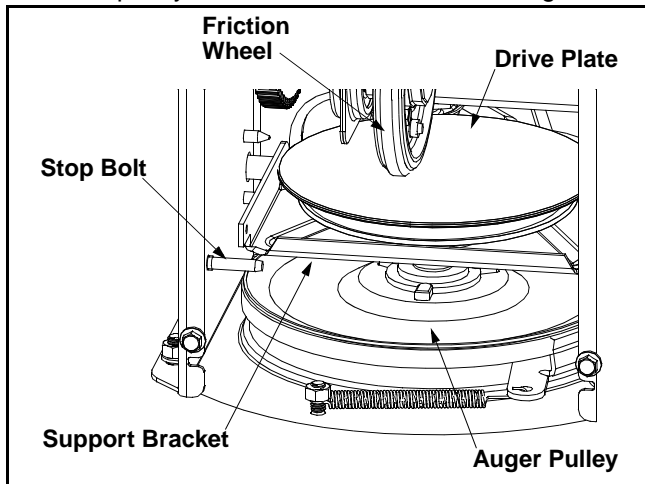

Figure 14
- Back out the stop bolt until the support bracket rests on the auger pulley. See Figure 14.